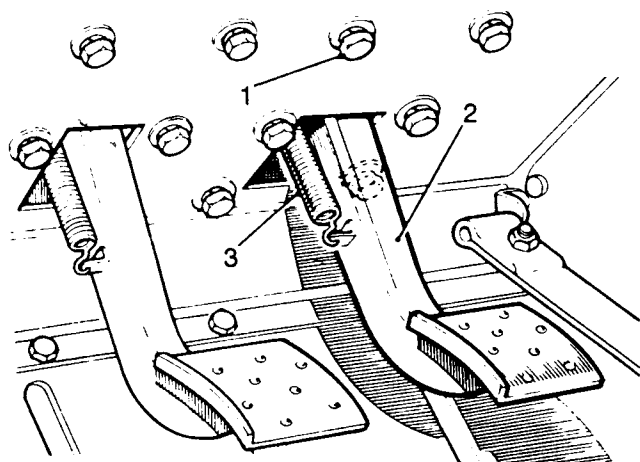

Fig K1.9
- (5) Refer to Fig K1.9. Remove the fixings (1) securing the brake pedal bracket to the toe box.
- (6) Withdraw the brake pedal and bracket assembly (2) from the engine compartment, manoeuvring the pedal through the aperture in the toe box.
- (7) Disconnect the brake pedal return spring (3).